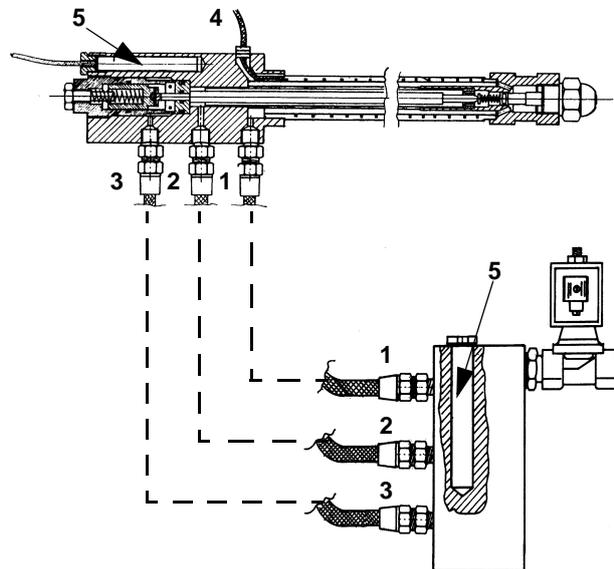
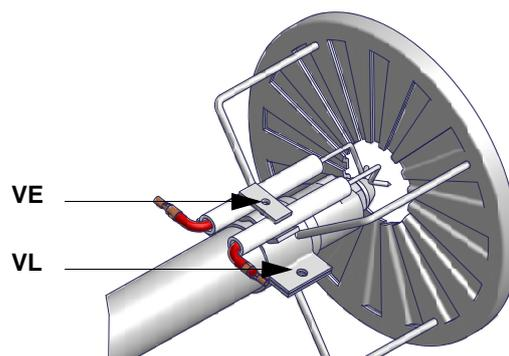

Fig. 28
Fig. 29
- Unscrew the oil connections E (Fig. 28) connecting the flexible pipes to the gun L and remove the whole assembly as shown in Fig. 28-Fig. 29.